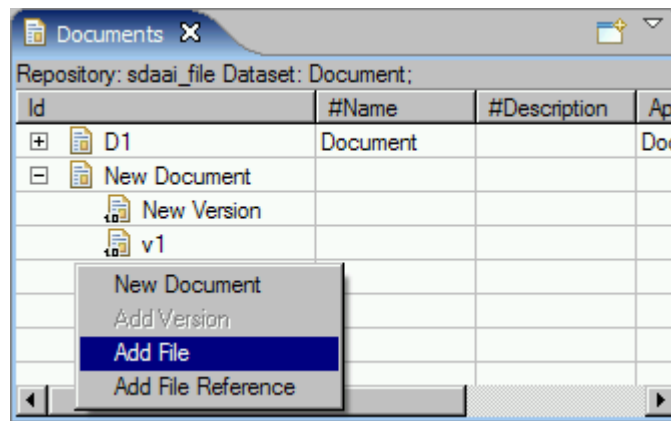

Figure 1. Add File menu item
- Select the **Add File** menu item in the appears context sensitive menu (see Figure 1).